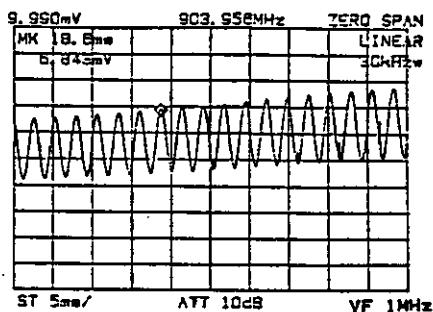

Figure 5-6 Reading the Difference from the Time Indication of the Adjacent Peak
- ⑬ Move the marker to the next peak and obtain the difference T(s) between the time indication of that marker and the time indication in step ⑫. In this example, it can be obtained as  $18.6 - 16.0 = 2.6$  (ms) (Figure 5-6).